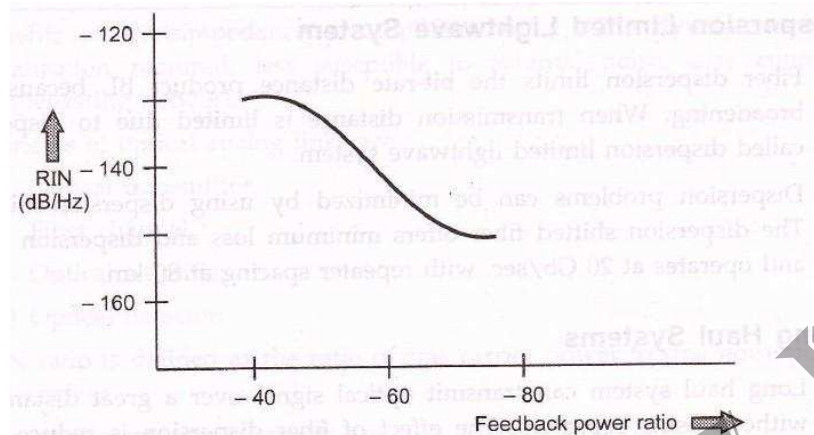

Fig. 6.2.11 Feedback power ratio (dB)
- x The optical reflection generated within the systems are to be minimized. The reflected signals increases the RIN by 10 – 20 dB. Fig. 6.2.11 shows the effect on RIN due to change in feedback power ratio.